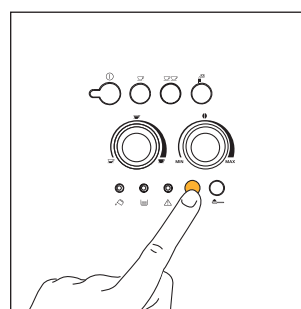

Fig.14
1)) If, when the machine has just been turned on, a short cup of coffee is required (less than 60cc), use the hot rinsing water to pre-heat the cups (see the suggestion in par. 4.3, point 5). 1) If, when the machine has just been turned on, a short cup of coffee is required (less than 60cc), use the hot rinsing water to pre-heat the cups (see the suggestion in par. 4.3, point 5). If, on the other hand, more than 2/3 minutes have elapsed since the last coffee was made, before preparing **another coffee the infuser must be pre-heated, pressing the ☕/☕☕ button** (Fig. 14).